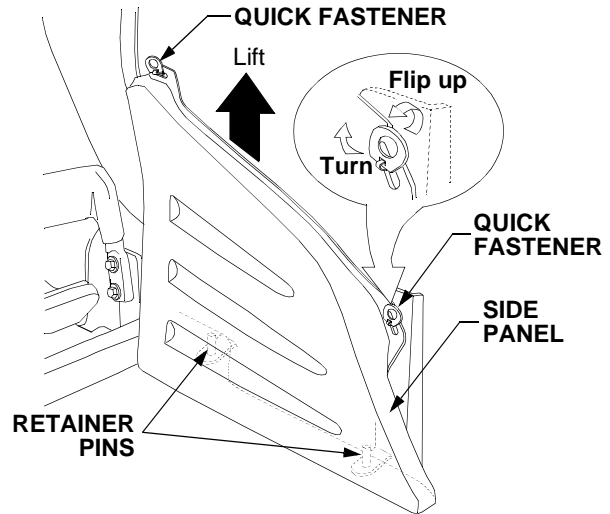

Figure 36
- Flip the tabs of the two quick release fasteners up and turn to align with the slots in the side panel. See Figure 36.
- Align the two holes in the bottom of the side panel with the retainer pins and slide the panel onto the pins. See Figure 36